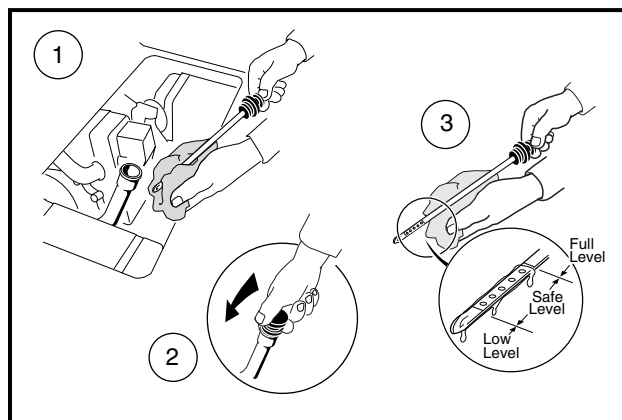

Figure 29 Engine Oil Level Check
1. Remove the oil level dipstick from the oil filler tube and wipe oil from dipstick (**Figure 29**). See following **CAUTION**.